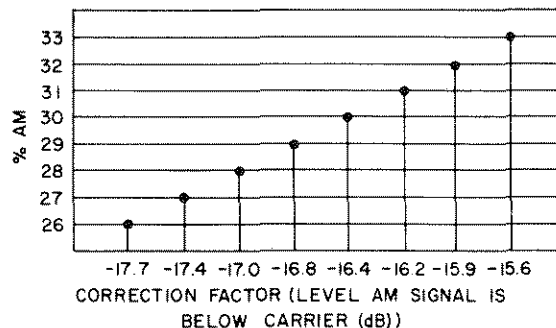

Figure 4-10. Correction Factor Chart
6. Determine the correction factor by difference in amplitude between the 30% amplitude modulation signal level and the unmodulated carrier signal level calculating actual percentage of modulation and referring to the graph in Figure 4-10. To calculate actual percentage divide peak-to-trough amplitude of modulated signal by the peak-to-peak amplitude of the unmodulated signal (5 cm) and multiply by 100.
Example, if the calculated percent of modulation is 30% (step 6) the correction factor will be 16.4 dB (Figure 4-10). Since the minimum level of Incidental AM must be 55 dB below the carrier, the 1 kHz amplitude should decrease by at least 38.6 dB (minimum specification level — correction factor).